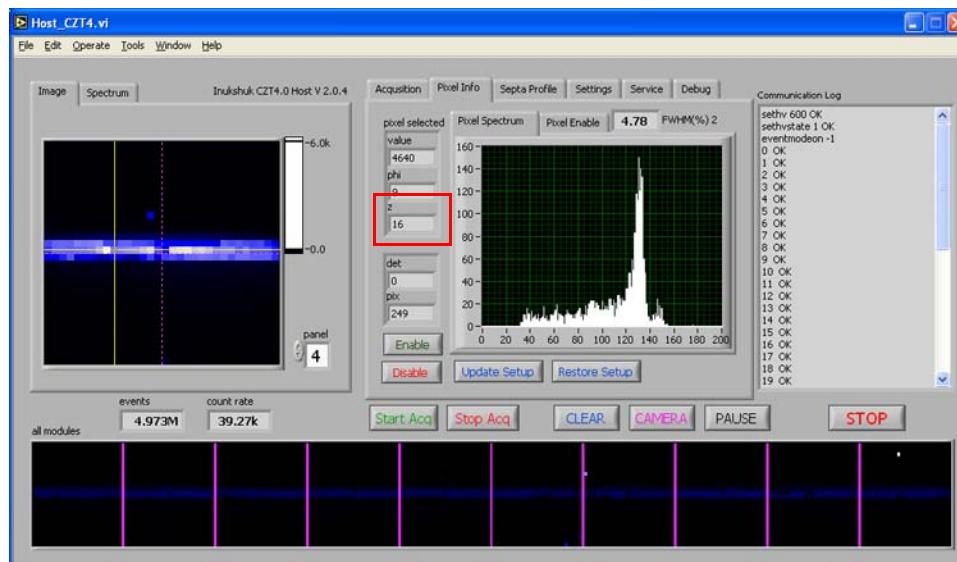

Figure 7-19
- 4.) Click the "pixel Info" tab on the Inukshuk Receiver screen. Click on the most active row in the left hand window in Figure 7-19 and note the row data (Z value). Adjust the isotope position along the Z axis by moving the table, if necessary, to ensure it is closest to row 16. To refresh the display after the Table is moved, click on 1) Stop Acq then 2) Clear and then 3) Start Acq..